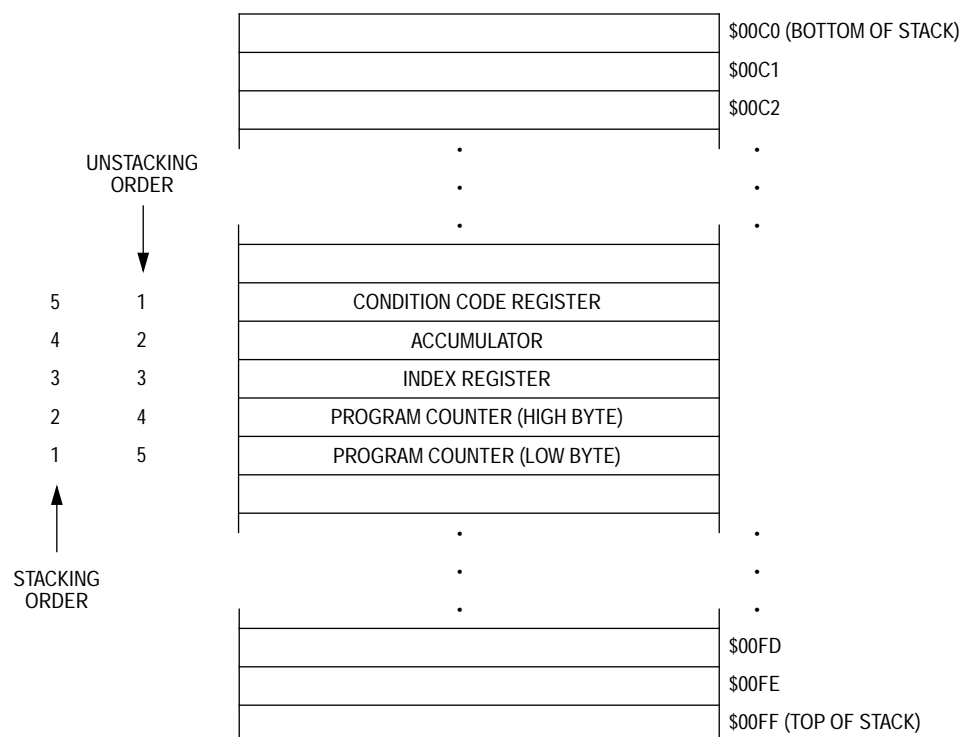

Figure 22. Interrupt Stacking Order
- Stores the CPU registers on the stack in the order shown in **Figure 22**
The return from interrupt (RTI) instruction causes the CPU to recover the CPU registers from the stack as shown in **Figure 22**.